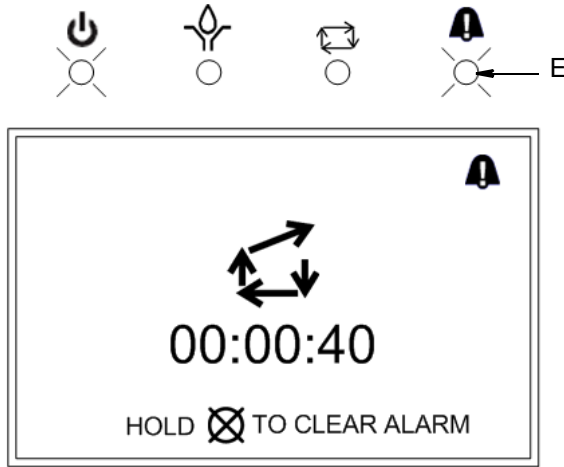

FIG. 74
When an alarm event occurs, Alarm screen as shown in FIG. 74 displays.
- The Alarm LED (E, FIG. 74) will flash during this time.